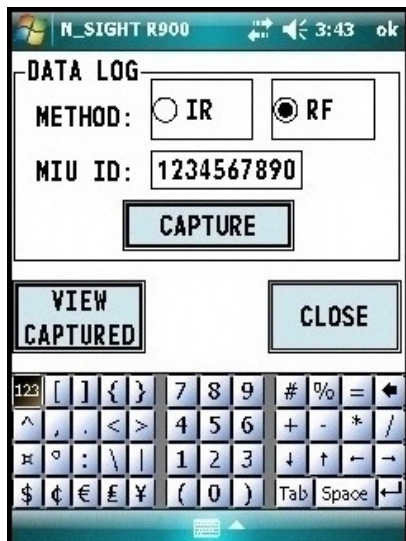

Figure 53 Capture Button
- 4 After you type the MIU ID, click **CAPTURE**. See Figure 53.